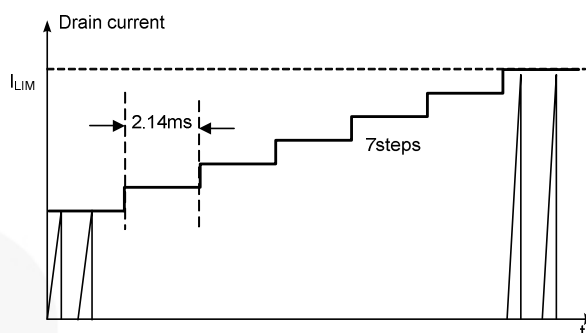

Figure 20. Internal Soft-Start
**5. Soft-Start:** The FPS has an internal soft-start circuit that slowly increases the feedback voltage with the SenseFET current right after it starts up. The typical soft-start time is 15ms, as shown in Figure 20, where progressive increment of the SenseFET current is allowed during the start-up phase. The soft-start circuit progressively increases current limits to establish proper working conditions for transformers, inductors, capacitors, and switching devices. It also helps to prevent transformer saturation and reduces the stress on the secondary diode.